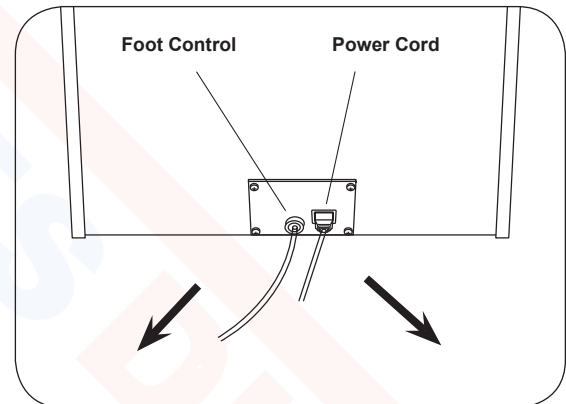

Figure 9. Power Cord and Foot Control Plugs
12. Unplug foot control and power cord and place into rear storage drawer (Figure 9).